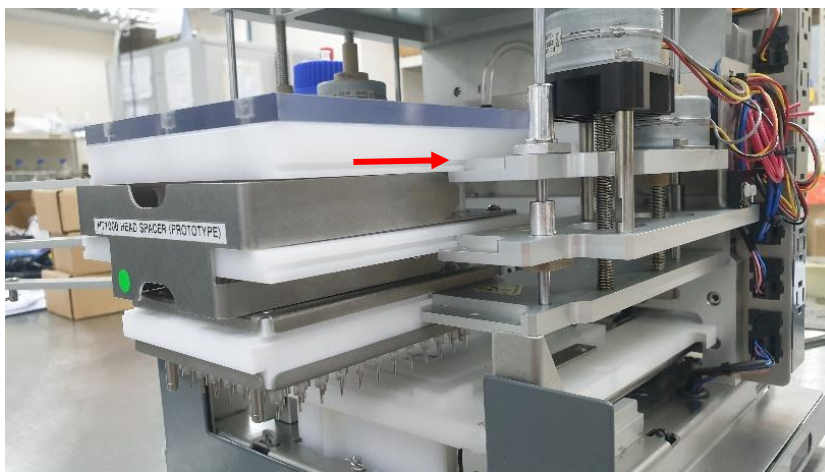

Figure 3-9: Align Fluidic Head to Machine (step 3)
11. And finally, the top block (Figure 3-9 red arrow).